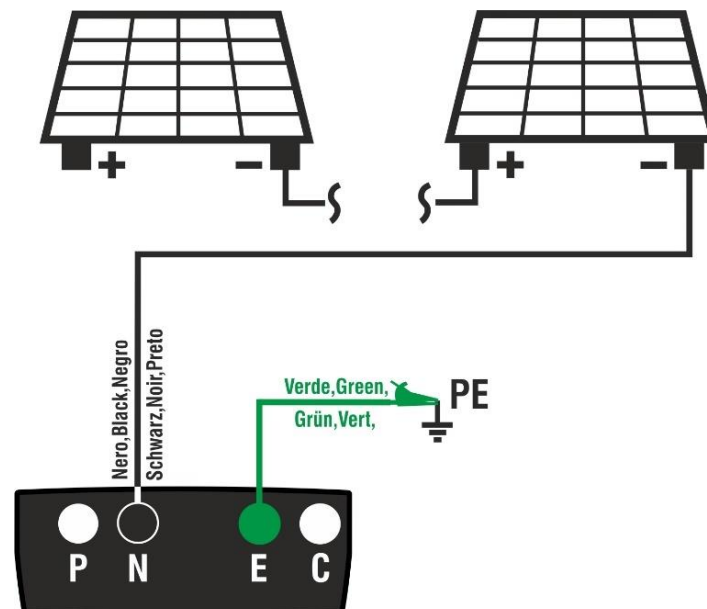

Fig. 8: Instrument connection for insulation measurement in TMR mode
8. Connect the instrument to the PV string to be tested as shown in Fig. 8. **The test can be carried out also on more strings connected in parallel to each other. Please remember that it is also necessary to separate possible overvoltage protections connected to the cables of the string(s) and that it is recommended to measure upstream of possible blocking diodes.**